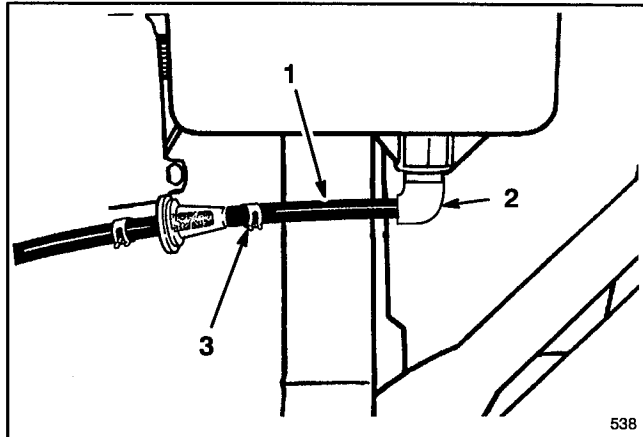

Figure 3
5. Remove red cap from end of fuel line and from end of elbow fitting on gas tank. Slide end of fuel line onto elbow fitting (Fig. 3). Secure fuel line in place with fuel line clamp.